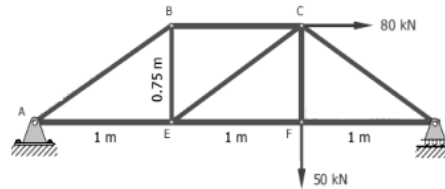

Fig.3
5. For the truss shown in Fig.3 Evaluate the forces in the members BC, CE and EF. Use method of sections. [15M]